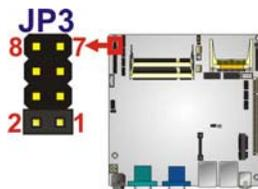

Figure 4-7: Serial Port Jumper Locations
- Jumper Location:** See Figure 4-7